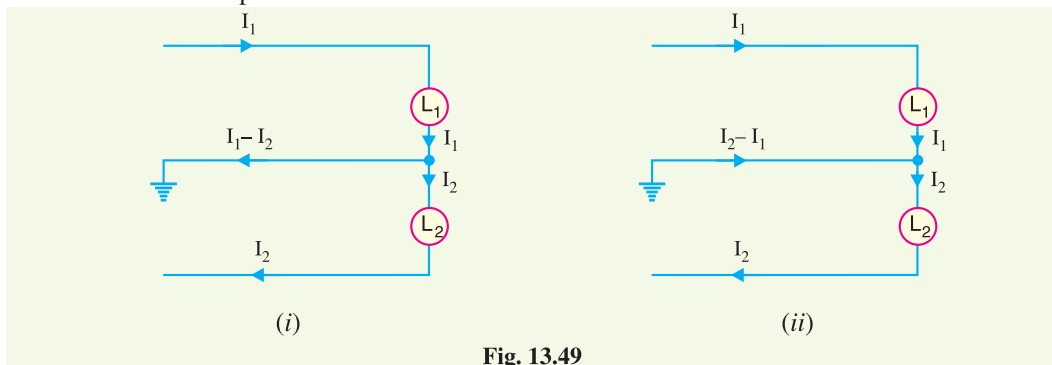

Fig. 13.49
- (ii) If the load on the positive outer (I_1) is greater than on the negative outer (I_2), then out of balance current $I_1 - I_2$ will flow in the neutral wire from load end to supply end as shown in Fig. 13.49 (i). Under this condition, the potential of neutral wire will no longer be midway between the potentials of the outers.
- (iii) If the load on the negative outer (I_2) is greater than on the positive outer (I_1), then out of balance current $I_2 - I_1$ will flow in the neutral from supply end to load end as shown in Fig. 13.49 (ii). Again, the neutral potential will not remain half-way between that of the outers.